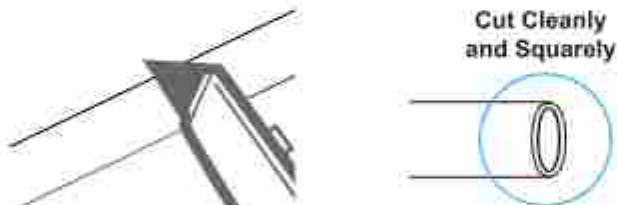

Figure 1
**NOTE:** If the tubing is too long, cut it to a suitable length with a sharp utility knife or scissors. Cut the tubing squarely and cleanly (Figure 1). Make sure the tubing is fully inserted (about 0.8").